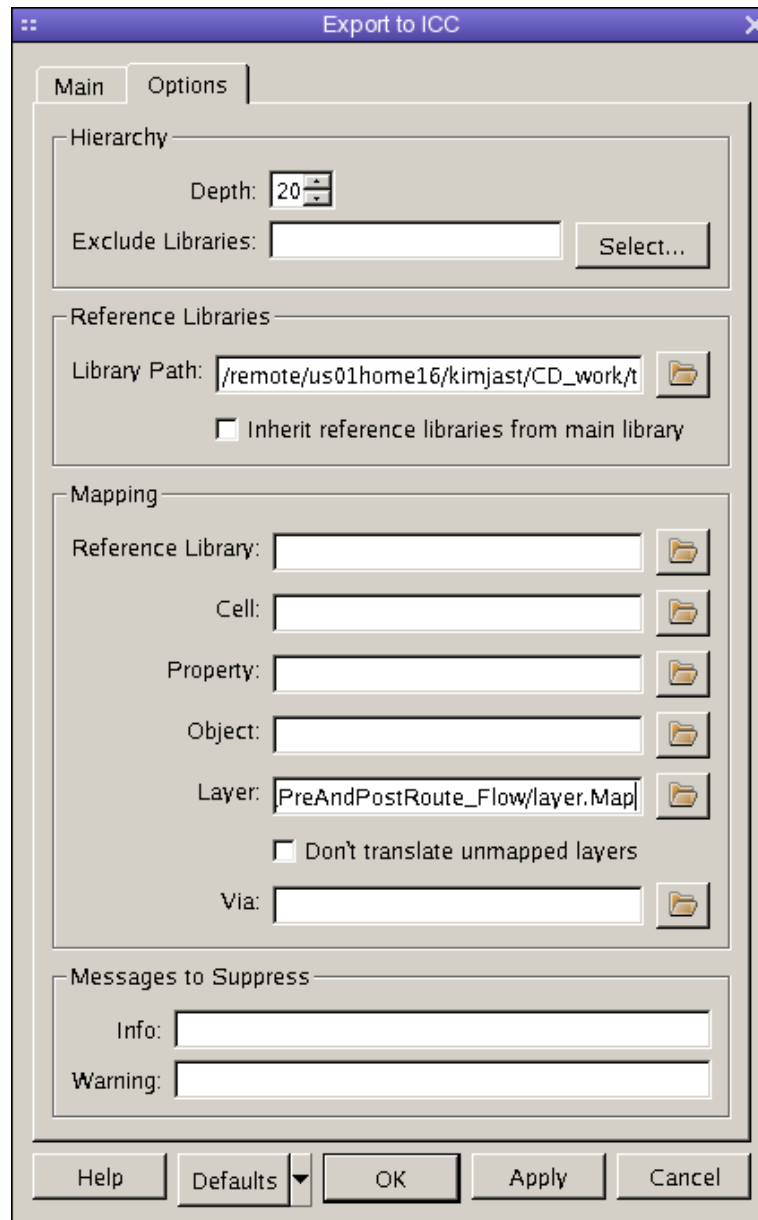

Figure 17 Export to ICC Dialog: Options Tab
3. Change to the **Options** tab in the **Export to ICC** dialog (Figure 17).